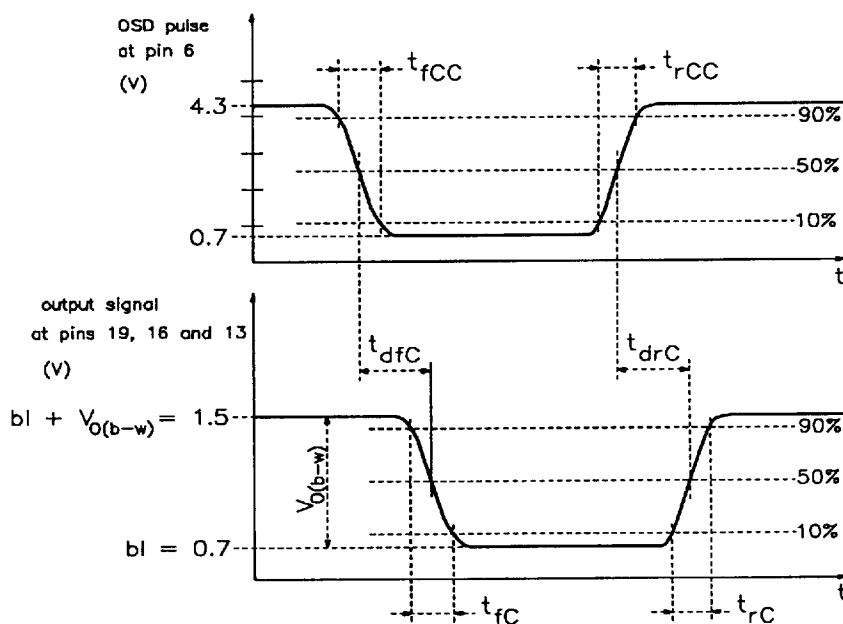

Fig.6 Typical OSD fast blanking input/output.
5. Typical step in contrast voltage and response at signal outputs for nominal input signal  $V_{I(b-w)} = 0.7$  V. Typical OSD fast blanking input/output see Fig.6.